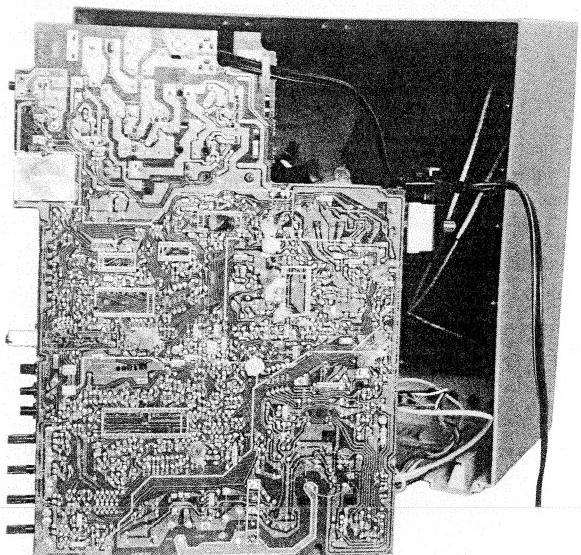

Fig. 2
- 2. During component checking or replacement, place the chassis as shown in Fig. 2.
- * Fig. 2 is an example of placing the chassis.